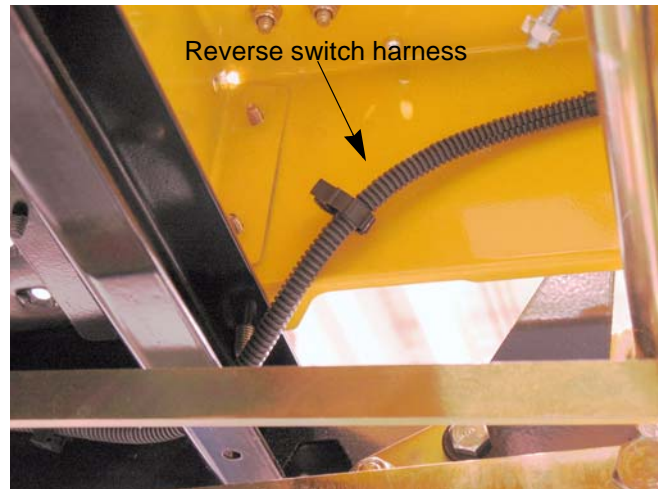

Figure 4.27
9. Disconnect the reverse switch harness from the conduit clip on the right side of the seat box. See Figure 4.27.